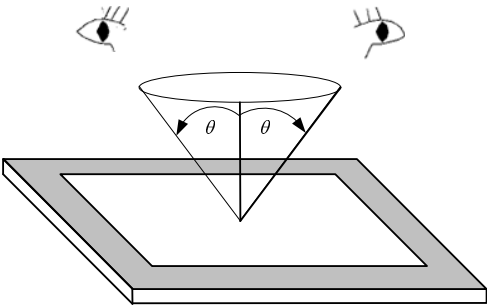

Fig. 12.1
- The viewing zone is defined with angle  $\theta$  shown in Fig. 12.1 The inspection should be performed within  $45^\circ$  when display is shut down. The inspection should be performed within  $5^\circ$  when display is power on.